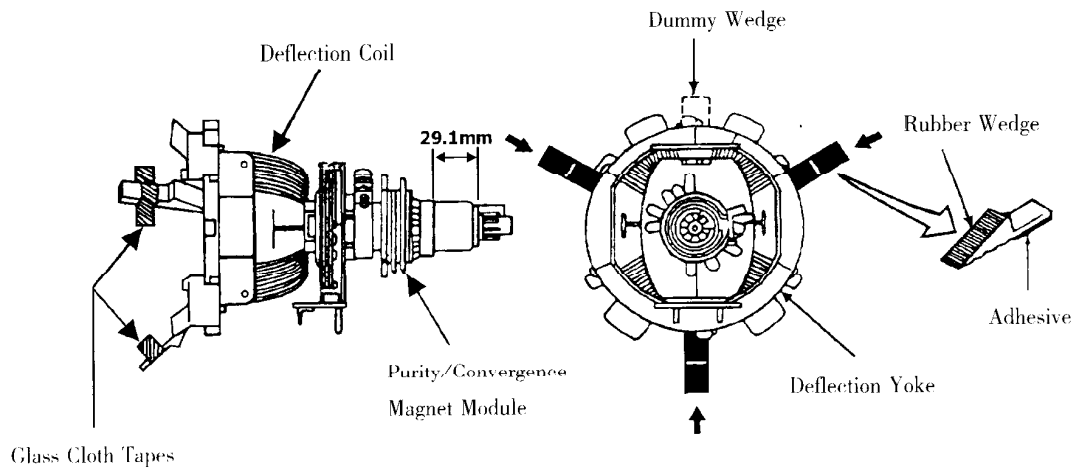

Fig. 11
The purity/convergence magnet assembly and rubber wedges need mechanical positioning. Refer to Fig. 11.
- 2) Temporarily put a wedge as shown in Fig. 11. (Do not remove cover paper on adhesive part of the wedge.)